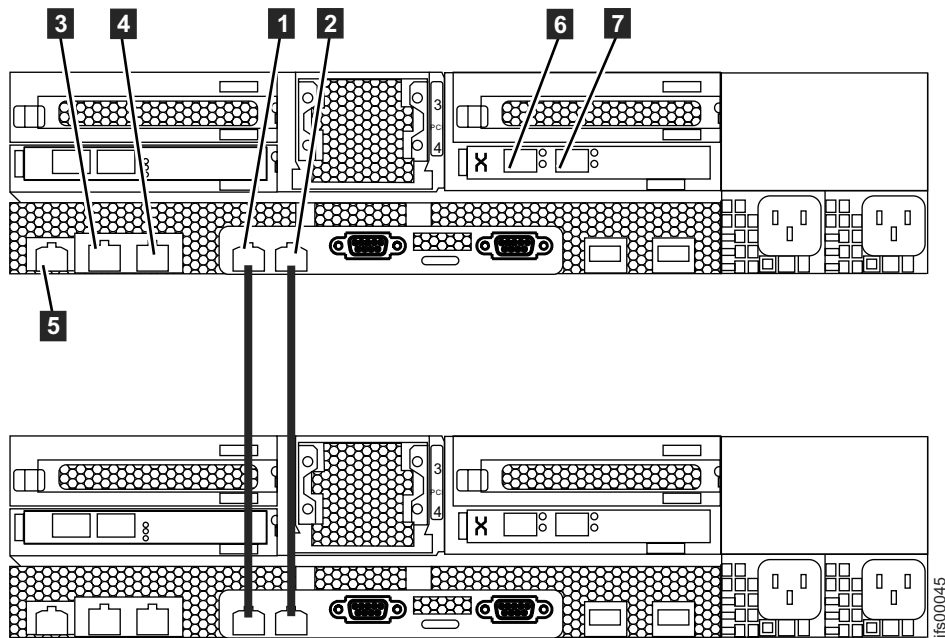

Figure 37. File module node Ethernet network connections.
This task assumes that your initial planning has determined where the Ethernet cables are to be located. The Storwize V7000 Unified control enclosure requires at least one and a maximum of two 1 Gbps Ethernet connections. Refer to Figure 35, Figure 36 on page 33, and Table 3 on page 33. For the file modules, the first two 1 Gbps Ethernet ports labelled **1** and **2** in Figure 37 on page 34 are used for internal communications between the file modules. The third and fourth 1 Gbps Ethernet ports are used for management and data (if needed). All 10 Gbps Ethernet ports are dedicated to data. Management cannot be performed over the 10 Gbps Ethernet. Refer to Figure 37 on page 34 and Table 4 on page 34.
If you encounter that situation, change the service IP addresses on the new nodes before connecting the Ethernet cables. For details, see Figure 37 on page 34 or see the *Storwize V7000 Unified Problem Determination Guide* PDF on the DVD for further information about setting service IP addresses using a USB key.
- Connect an Ethernet cable from Ethernet port 1 on the first file module to the first Ethernet port on the second file module. Refer to Figure 37 on page 34 for port locations.
You have two 10 Gbps Fibre Ethernet ports available for host connections from each file module. The ports are on the PCI card located in slot 4. Connect your network cables to the Ethernet ports in these slots as applicable. Refer to Figure 37 on page 34.